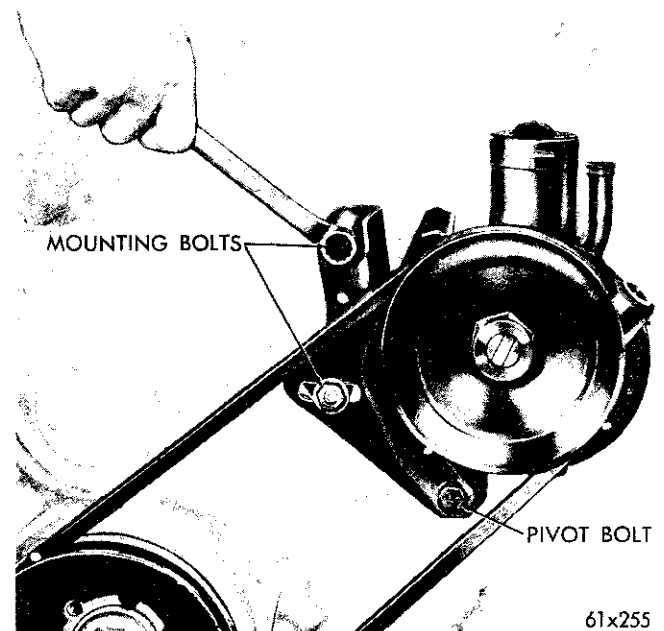

Fig. 11—Loosening Pump Bracket Mounting Screws
(1) Loosen the adjustment bracket to engine mounting bolts (Fig. 11).